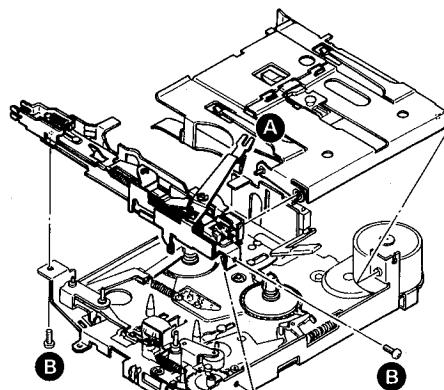

Fig. 8
2. Remove the A portion of the Loading Link. (See Fig. 8.)
3. Remove the 2 screws B in Fig. 8 and remove the Frame Assembly, Cassette Pack Guide and Guide Arm Assembly, and then replace the head.